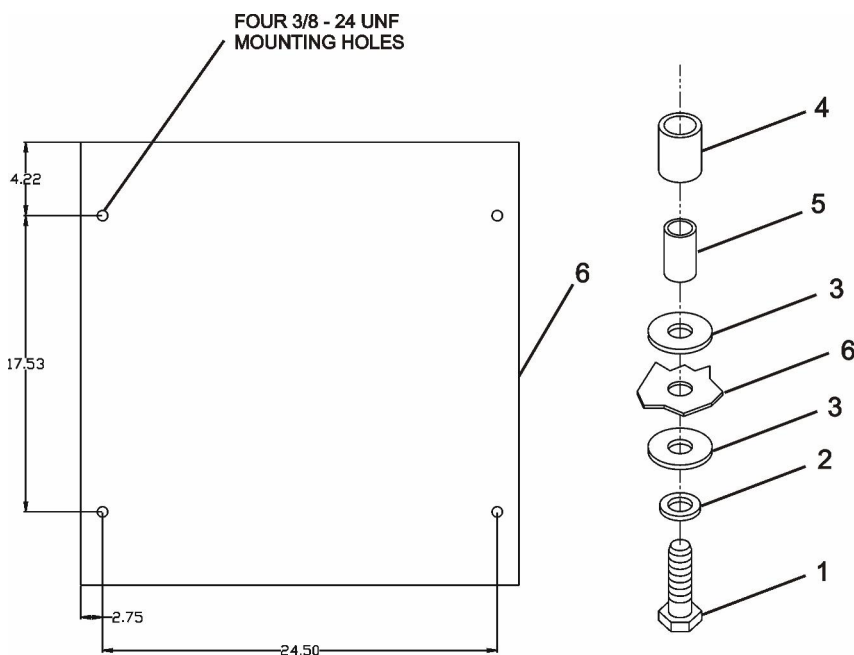

Figure 1. Installation Hardware
1. Remove four screws (1) and flat washers (2) from bottom of air conditioner and enclosure mounting plate (6). See Figure 1.
2. Remove four resilient mounts (3), four elastomeric tubes (5) and four spacers (4) from bottom of enclosure mounting plate (6).
3. Remove air conditioner from atop of four remaining resilient mounts (3) and the enclosure mounting plate (6).
4. Remove the remaining four resilient mounts (3) from atop of enclosure mounting plate (6).